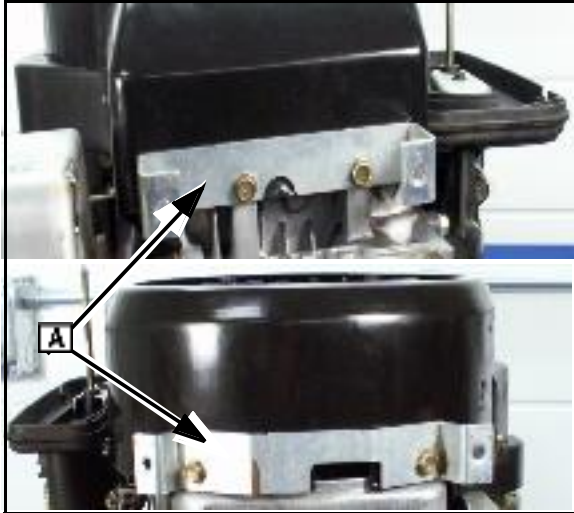
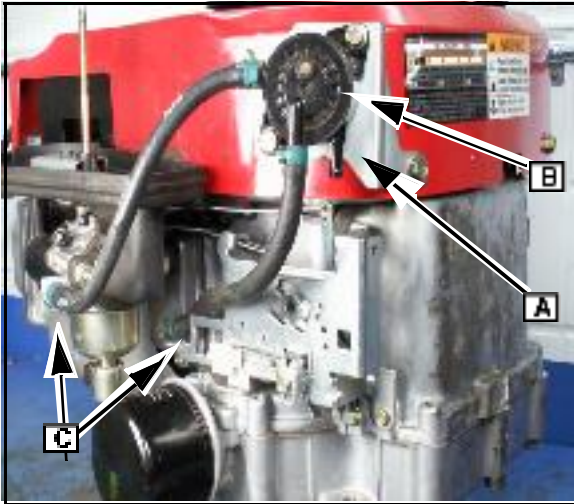

Fig. 54
Fig. 55
9. Install inner blower housing with brackets ([A] Fig. 54) as shown.
11. Install the outer blower housing on brackets (Refer to Fig. 54).
13. Install bracket for the fuel pump (A).
Install pump (B) and connect fuel lines (C) Fig. 55).